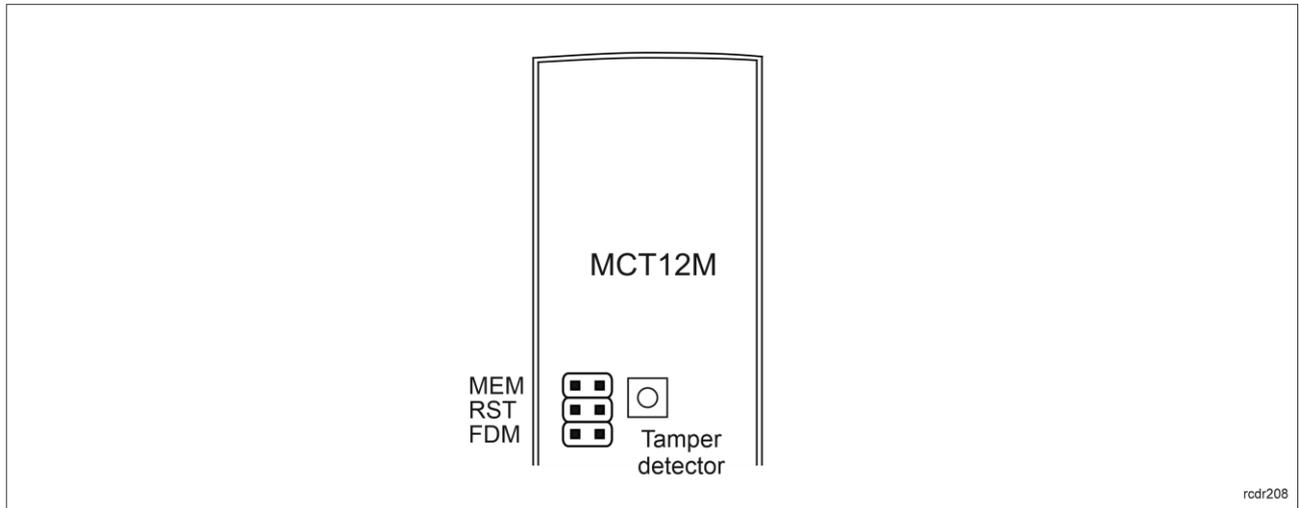

Fig. 3 Programming jumpers
- Front panel should be attached in such way as the tamper detector (fig. 3) would firmly press the back panel.
In RACS 5 v2 system the reader can be installed at site without previous configuration. According to AN006 application note, its address and other settings can be configured from VISO v2 management software and during such configuration the access to its service contacts (fig. 3) is not required.
2. Remove jumper from MEM contacts (fig. 3) if it is placed there.
2. Place jumper on MEM contacts (fig. 3).